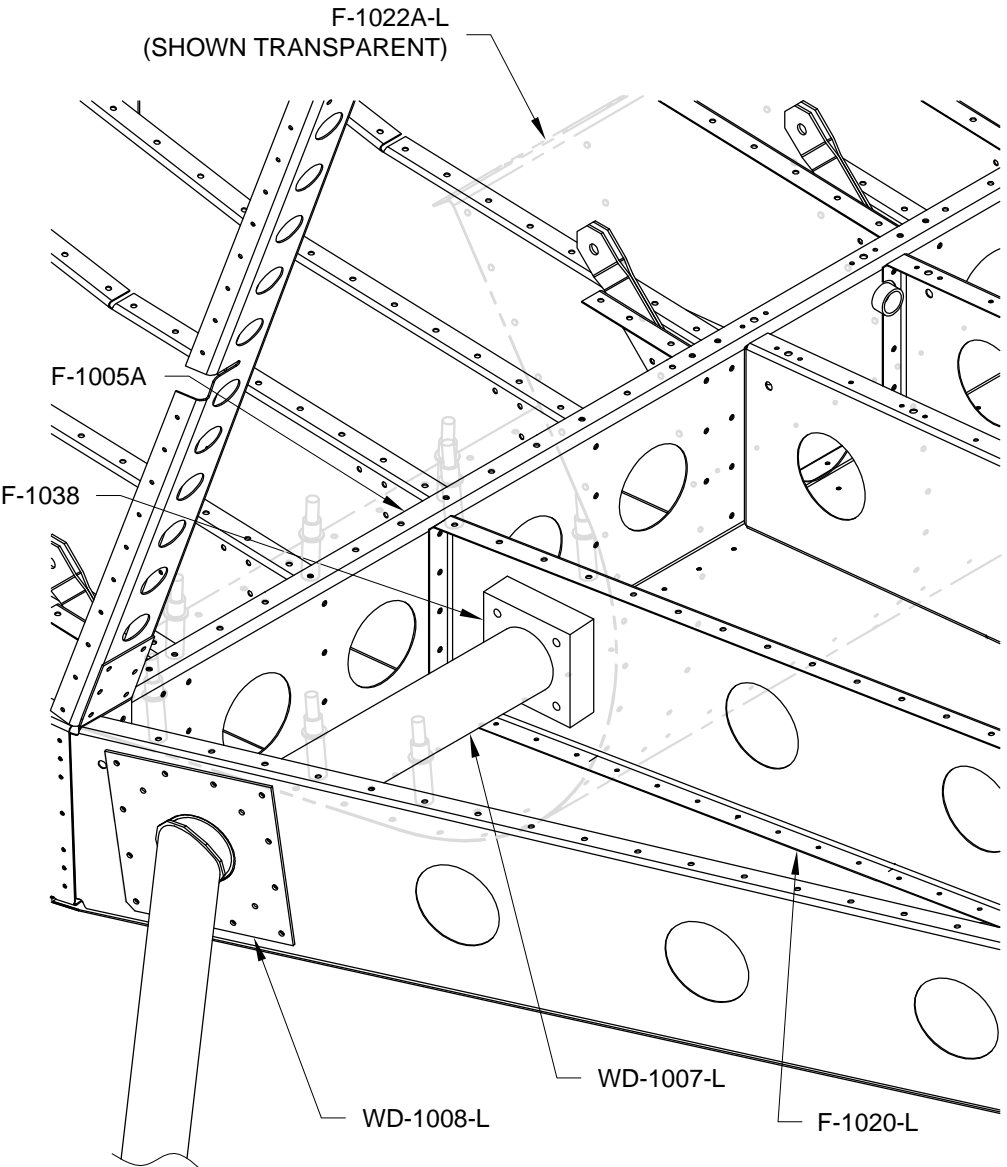

FIGURE 3: DRILLING THE SUPPORT BLOCK ATTACH HOLES
Step 4: Cleco the forward portion of the F-1022A-L Baggage Floor to the fuselage as shown in Figure 3. To keep the free end the baggage floor out of the way cleco the aft flange to the holes along the lower edge of the F-1034B Seat Back Brace, see Section 29.